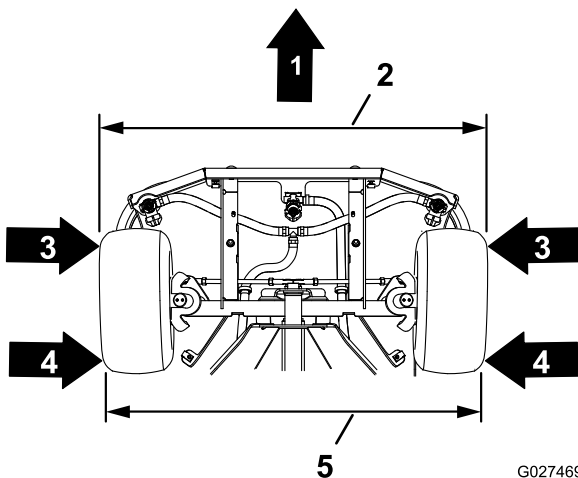

Figure 87
4. Measure the distance between the 2 front faces of the front tires as shown in Figure 87.
5. Measure the distance between the 2 rear faces of the front tires as shown in Figure 87.